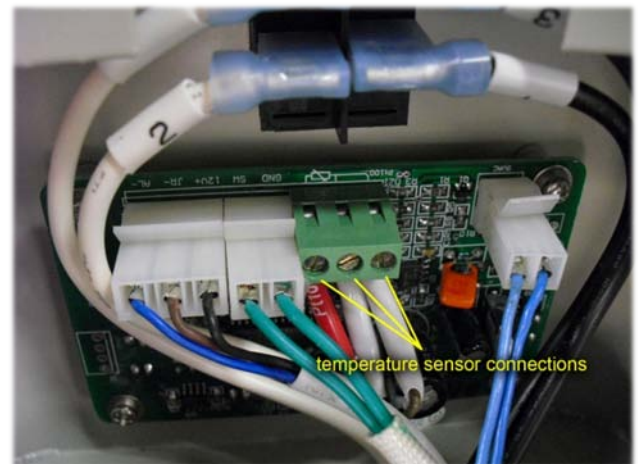

Figure 4
4. Locate where the temperature sensor connects to the CPU board (See Figure 4).
6. If the resistance reads approximately **110 ohms**, the CPU or SSR is defective and needs to be replaced. Please contact Yamato Scientific customer service at (408) 235-7725.
7. If the resistance reads **OL (overload) or 0**, the temperature sensor is defective and needs to be replaced. Please contact Yamato Scientific customer service at (408) 235-7725.